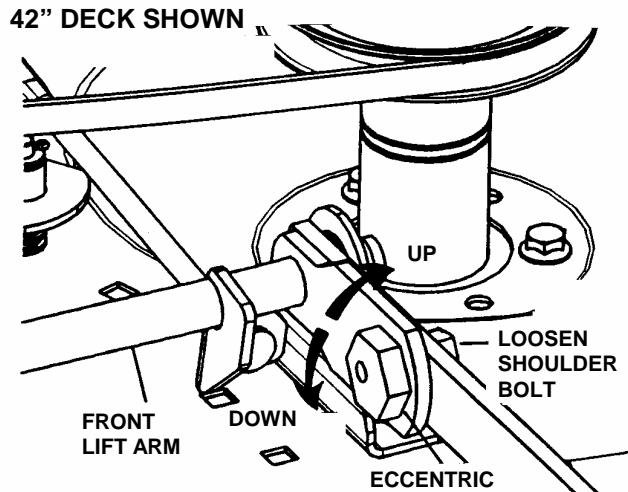

FIGURE 4.8
- g. Turn eccentric "UP" or "DOWN" as required until blade tips are within  $1/8"$  of the same distance from the floor. See Figure 4.8.